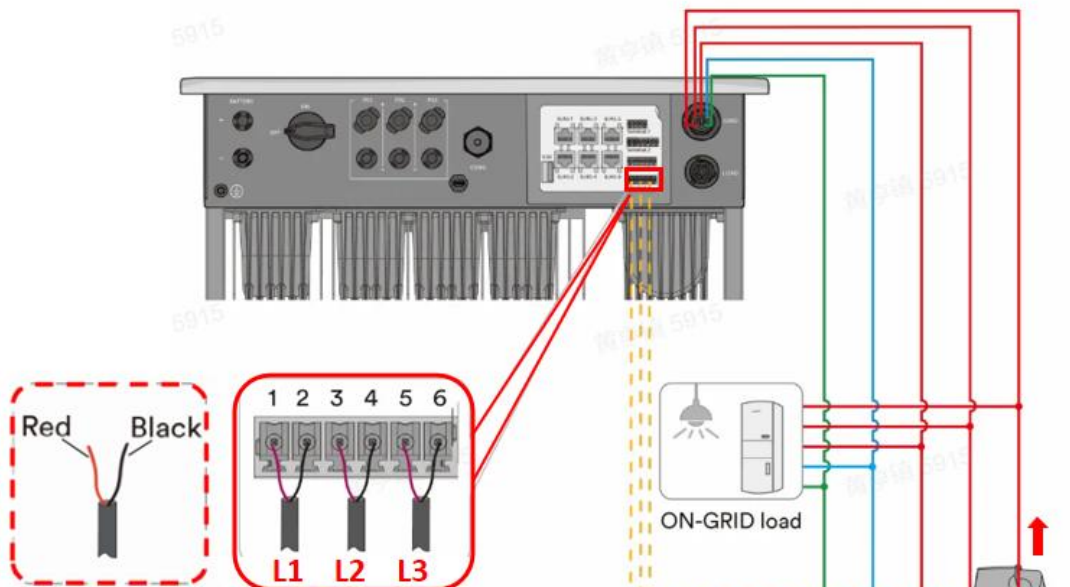

Figure 2: CTs and inverter communication connection diagram
Step 2: Connecting the meter to the inverter with a communication cable, please see Figure 2.
Step 2: Connecting the 3 CTs to the inverter with 3 communication cables, please see Figure 2.